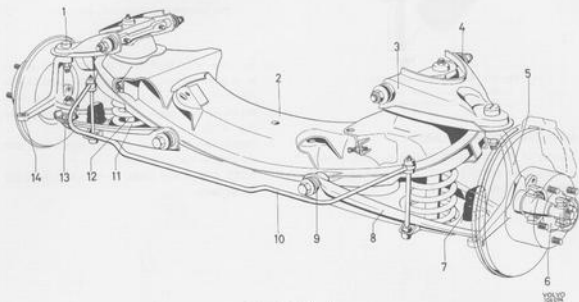

Fig. 6-13. Front axle
The vehicle has independent front wheel suspension. This means that there is no actual front axle, this being replaced by a robust box-section front axle member, which is bolted to the self-supporting body. The front wheel suspension and springs are fitted at the ends of the member. The construction is illustrated in Fig. 6-13.
The front wheels are carried in taper roller bearings Fig. 6-13. The front spring assembly consists of coil springs (11) inside which telescopic shock absorbers (12) are fitted. In order to increase its anti-roll properties, the car is equipped with a stabilizer (10) which is attached partly to the lower control arm and partly to the body.